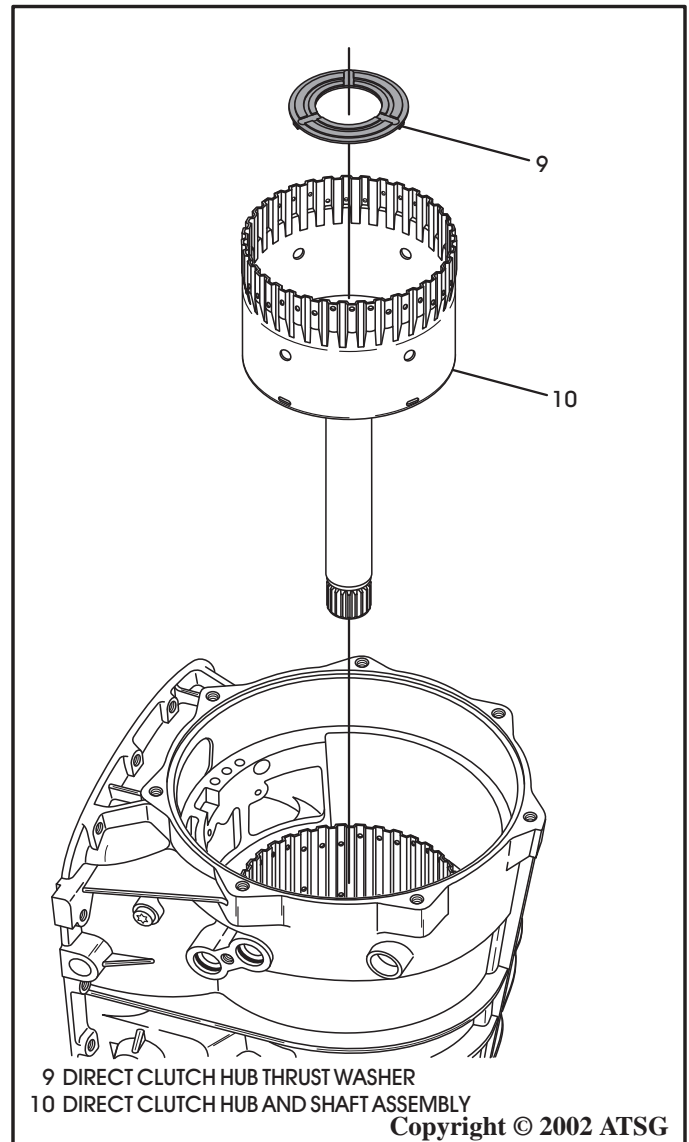

Figure 48
39. Remove the direct clutch hub and the thrust washer from the case, as shown in Figure 48.